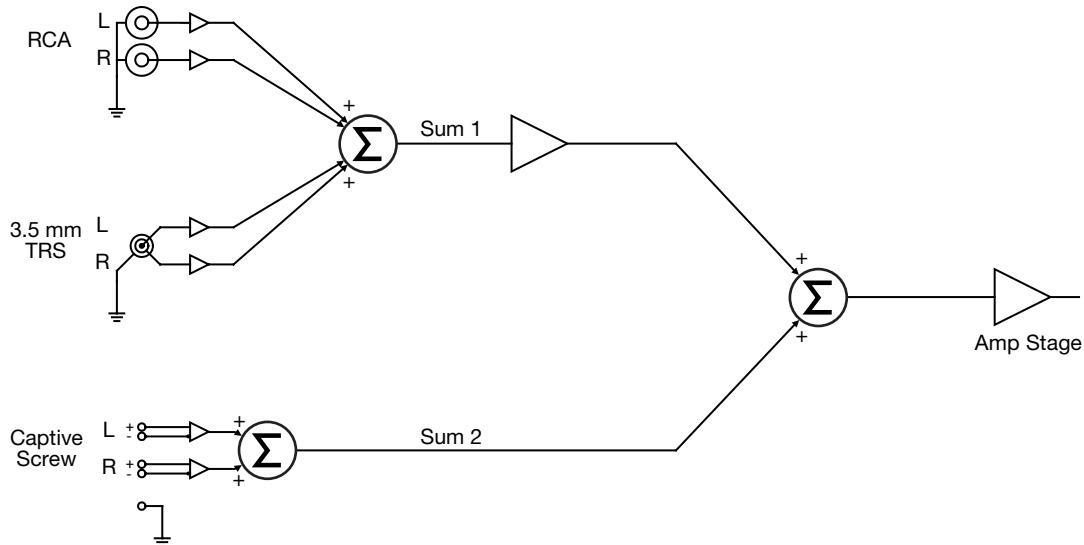

Figure 6. Summing MPA 401 input signals to form a single mono output signal
The signals from multiple inputs are summed to produce a single output signal (see **figure 6** on page 9).
- The MPA 401 amplifier sums the left and right signals from both the TRS and RCA inputs to form Sum 1. Sum 1 is then weighted. At the same time, the amplifier sums the left and right signals from the captive screw input to form Sum 2. Sum 1 and Sum 2 are then summed together to form a single mono signal. See figure 6 below for more details.